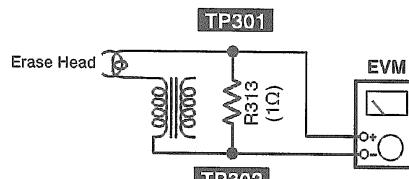

Fig. 7
- Check if the output at this time between the erase current confirmation point TP301 and TP302 (the output on both edges of R313) is within the standard value. (Refer to Fig. 7.)